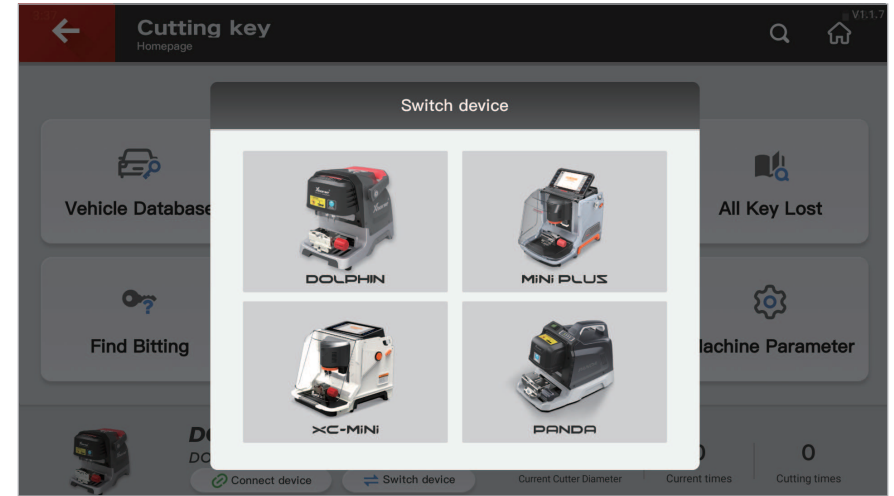

Fig.9.1.1
- 1 Click 'Switch device', select the machine you need as shown in Fig. 9.1.1. Machines that are compatible with KEY TOOL PLUS include DOLPHIN, MiNi PLUS, XC Mini and PANDA.